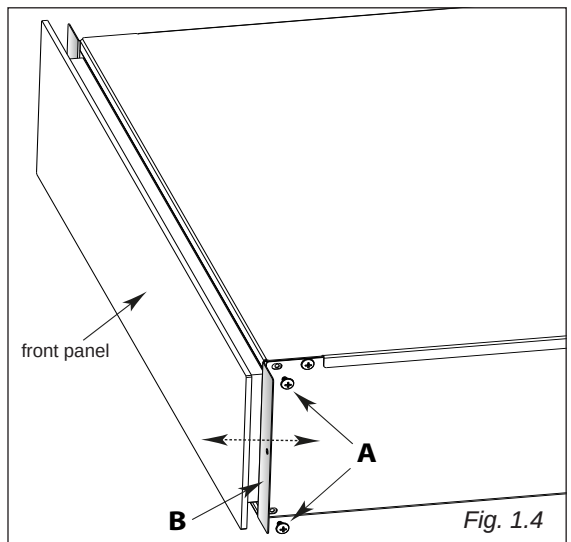

Fig. 1.4
- to adjust the depth of the food-warmer drawer, slacken screws "A" (fig. 1.4) and adjust brackets "B" (fig. 1.4) until the front panel is aligned with the other appliance.
- Tighten screws "A" (fig. 1.4) again until tightly fastened.